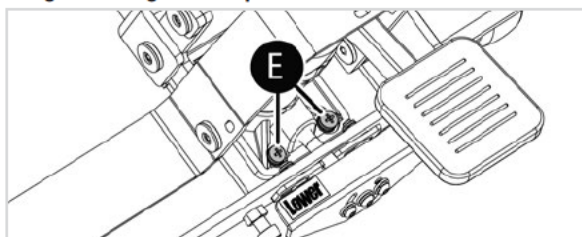

Fig. 9
Remove the three jack cover screws, and the two jack mounting screws (E) shown in Fig. 9 using a Philips screwdriver.